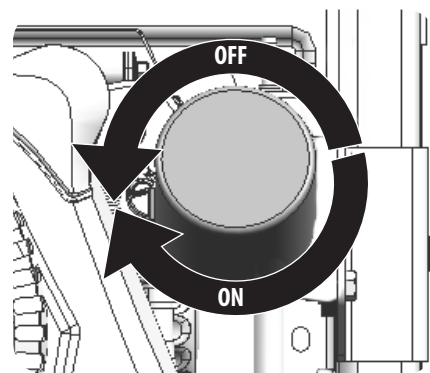

Figure 4-5
7. Locate the oil filter on the oil filter adapter bracket inside the RH console. See Figure 4-5.